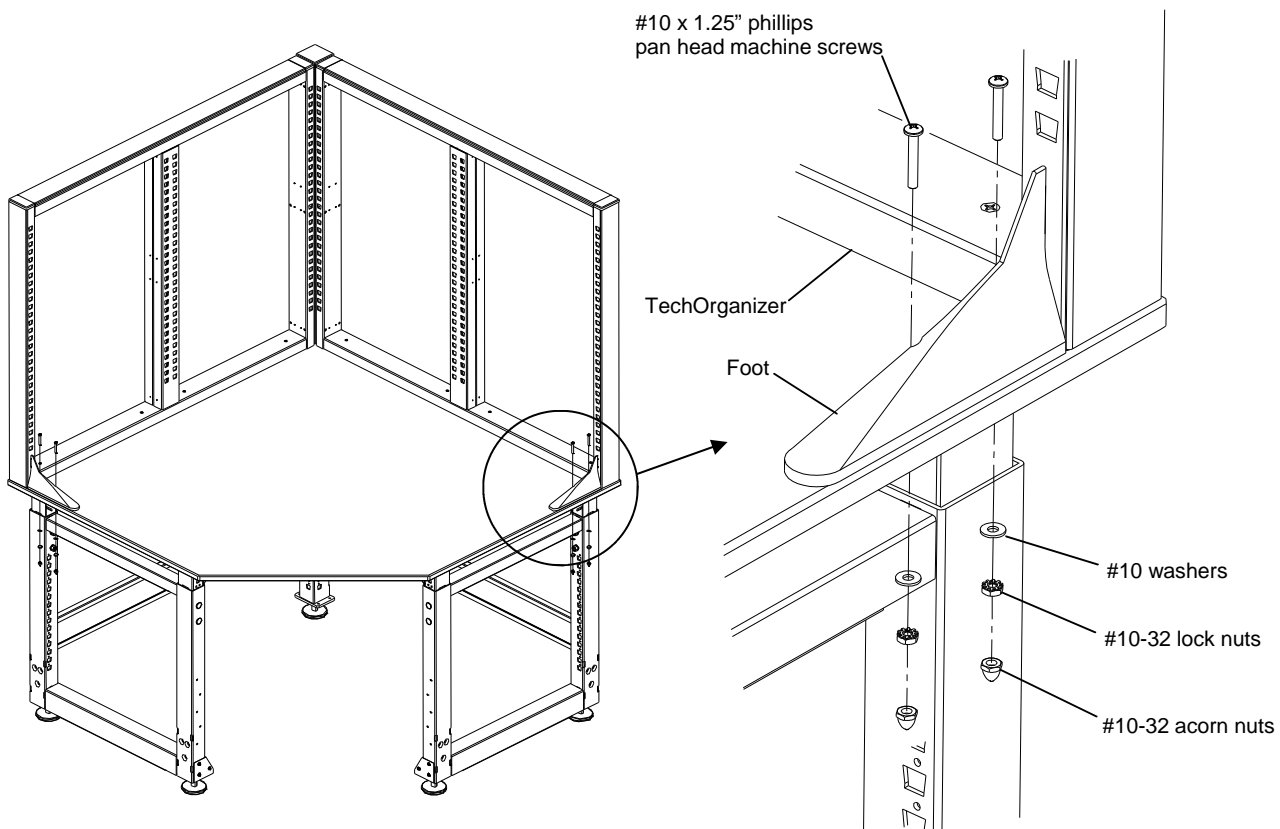

Figure 2
2. With two people, position the TechOrganizer in the desired location on the back of the Worksurface. On a Linx Worksurface, locate the back of the frame .20" from the back edge of the Worksurface. See **Figure 2**.
3. Using the holes in the frame bottom crossbar and the holes in the feet as a template, locate and drill the appropriate quantity of .113 dia. holes .50" deep in the Worksurface. See **Figure 2**.
4. Attach the frame bottom crossbar to the worksurface using the #10AB x 2.25" Phillips head flat head screws (provided). See **Figure 2**.
5. Attach the feet to the Worksurface using the four #10AB x .75" Phillips pan head screws (provided). See **Figure 2**.
4. Using the holes in the feet as a template, locate and drill four .218 dia. holes **thru** the worksurface. Attach the feet to the worksurface using the four #10 x 1.25" phillips pan head machine screws, #10 washers, #10-32 lock nuts and #10-32 acorn nuts provided. See figure 2.